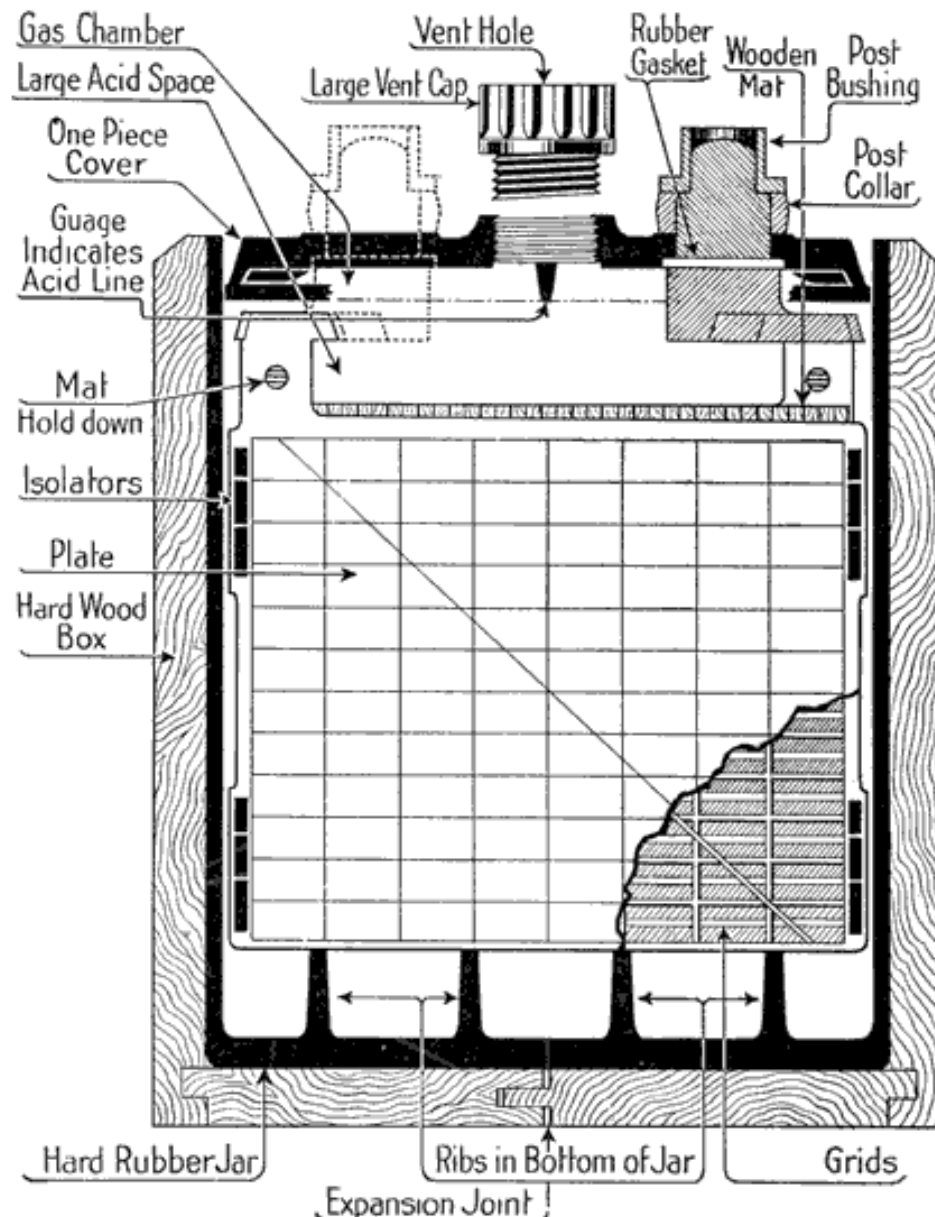

**Fig. 263. Vesta Grid with Three Piece Isolator**
**Vesta Isolators.** The Vesta plate embodies in its design devices which are intended to hold the plates straight and thus eliminate the buckling and short-circuiting which form a large percentage of battery trouble. Fig. 263 shows clearly the construction of the old type of plate. Each isolator used in the old type of plate consists of two notched strips of celluloid, with a plain celluloid strip between them. The notches are as wide as the plates are thick, the teeth between the notches fitting into the spaces between plates, thus holding the plates at the correct distances apart. The plain celluloid strip holds the notched strips in place. At each corner of the Vesta plate is a slot into which the isolator fits, as shown in Fig. 263. Since the teeth on the two notched pieces of each isolator hold the plates apart, they 'cannot "cut-out" or "short-out" by pinching through the wooden separators, or "impregnated mats" as they are called by the Vesta Company.